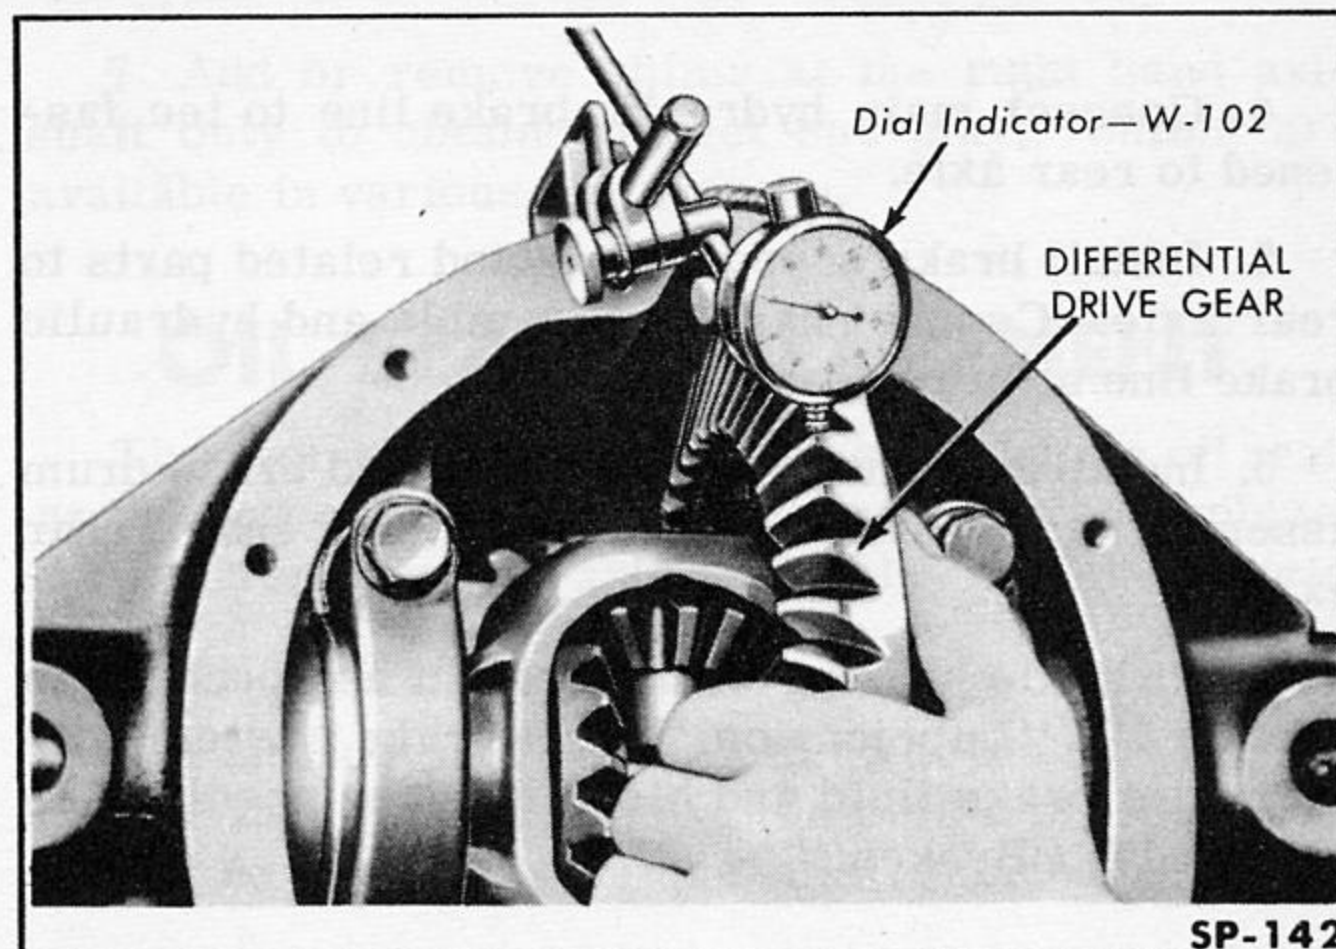

Fig. 185—Checking Drive Gear Backlash
17. Mount Dial Indicator W-102 on axle housing with indicator button against a drive gear tooth as shown in Fig. 185.